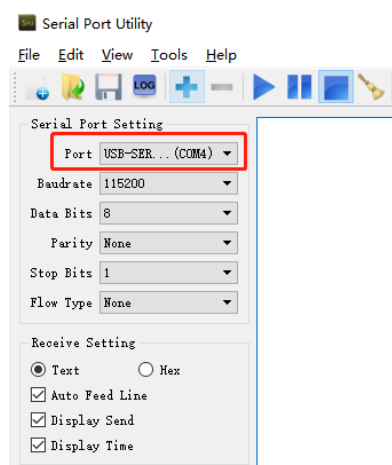

Figure 4-9 Choose correct serial port
- 5) Choose correct COM port from left tool sidebar (Figure 4-9), the sequence No. of COM port is got when the driver of USB serial cable is installed success. 【4.3 Install driver for USB serial cable (Windows 10)】